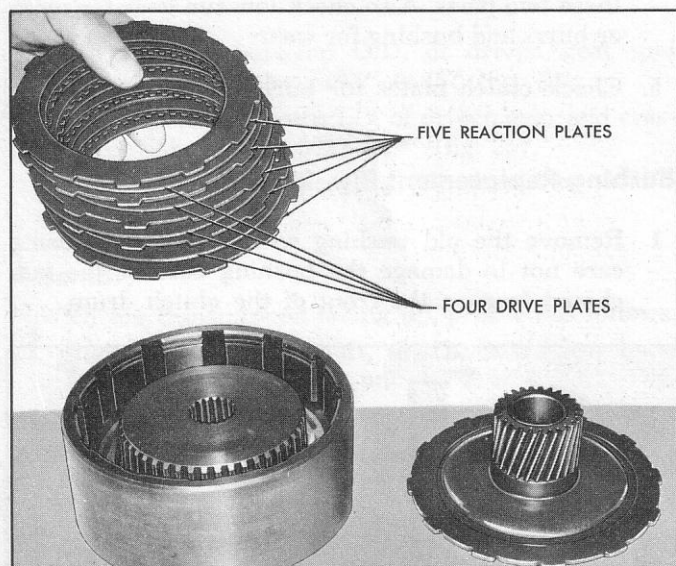

Fig. 29—Installing Clutch Drum Plates
6. Install the five steel reaction plates and four faced plates alternately, beginning with a steel reaction plate (fig. 29).